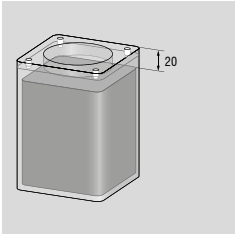

Fig. 12.3.1
1. Undo the four Allen screws on top of the oil tank (item 10, see drawing – chapter 6.2) and empty the tank.
2. After emptying the oil tank, drain the remaining hydraulic oil via the oil filler screw (item 9, see drawing – chapter 6.2). Use an Allen key to open the oil filler screw.
3. 700 ml hydraulic oil is required to refill the hydraulic jack (see also chapter 6.6 – Recommended hydraulic oil and lubricant). First fill the oil tank to 20 mm below the edge with hydraulic oil (Fig. 12.3.1). Then fill the rest of the hydraulic oil via the opened oil filler screw (item 9, see drawing – chapter 6.2).